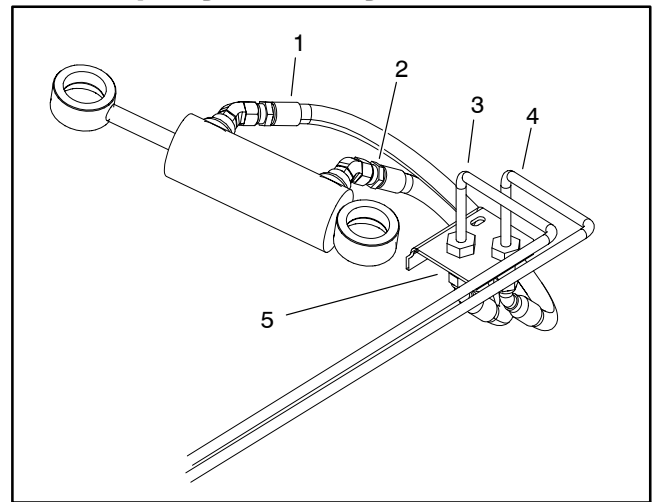
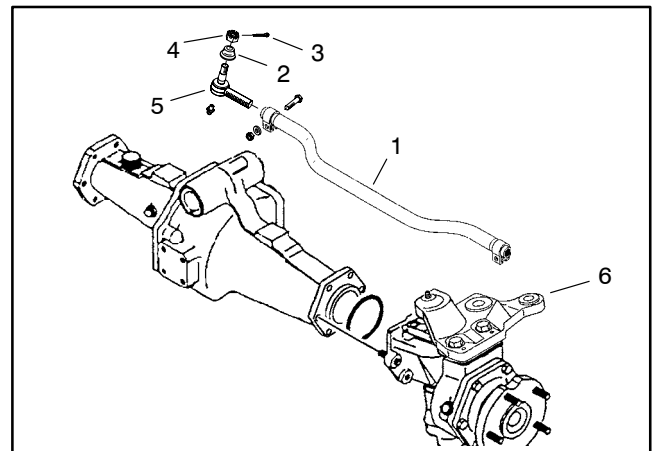

Figure 9
Figure 10
7. Disconnect both steering cylinder hydraulic hoses from hydraulic tubes at rear frame mount (Fig. 9). Remove bulkhead locknuts that secure steering cylinder hydraulic tubes to rear frame mount. Separate tubes from frame mount.
9. If required, remove tie rod ends from steering arms on rear axle (Fig. 10). Remove the cotter pins and castle nuts from the tie rod ball joints. Use a ball joint fork and remove the tie rod ends from the axle steering arms.
3. If removed, install the tie rod to rear axle (Fig. 10). Tighten ball joint castle nuts and install new cotter pins.
5. Secure rear mount to frame with six (6) cap screws, flat washers and flange nuts.
8. Attach steering cylinder hydraulic tubes to rear frame mount with washers and bulkhead locknuts (Fig. 9). Install steering cylinder hoses to hydraulic tubes.